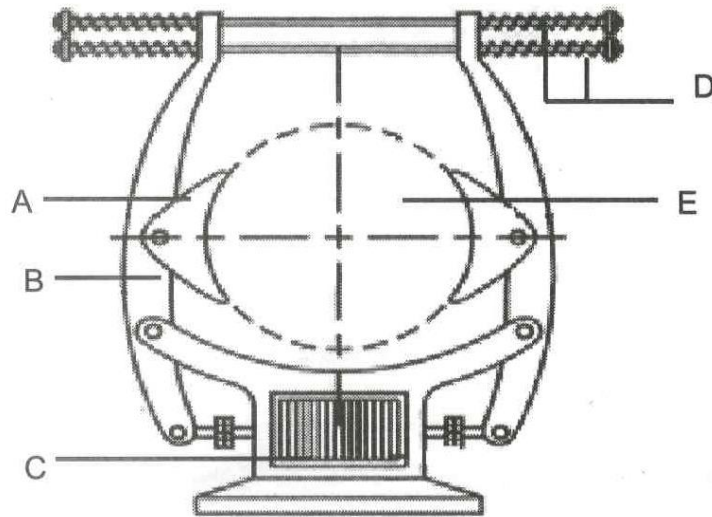

FIGURE 2 (5)
3.1 FIGURE 2 below shows a diagram of a brake.